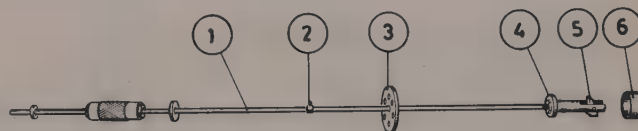

Fig. 7.13 Peugeot tool for removing and refitting the centre bearing (Sec 5)
- 1 Before commencing work, it is necessary to obtain a tool for removing and refitting the bearing. Peugeot tool 8.0403 is shown in Fig. 7.13, and consists basically of a slide hammer fitted with a rocker which engages the bearing after inserting the tool. The tool also incorporates a guide plate and depth setting ring, although this tool ensures quick and accurate removal and refitting of the bearing, the use of a wooden or soft metal dowel rod will also achieve the same objective.